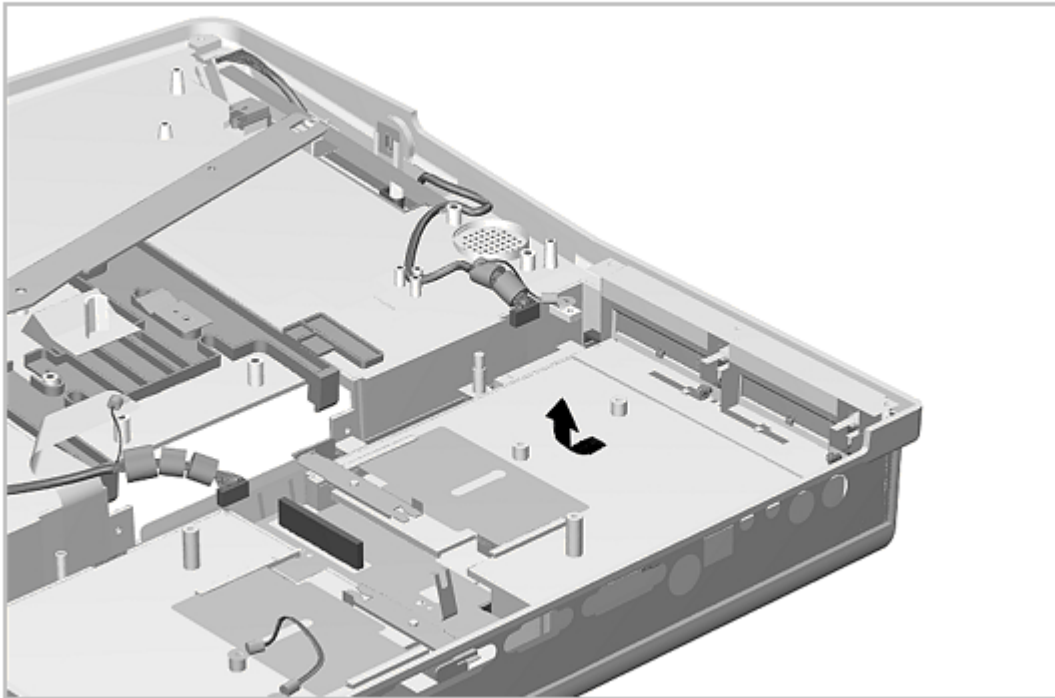

Figure 7-23. Removing the MultiBay Assembly
2. Begin lifting at the end of the assembly toward the MultiBay Connector Board and lift the MultiBay assembly out (Figure 7-23).